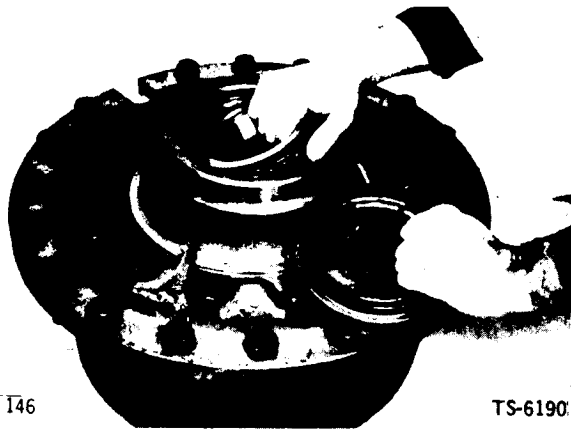

FIG. 146
- 3. Lubricate inner wheel hub bearing cone with gear oil and position in wheel hub bearing cup (Fig. 146).